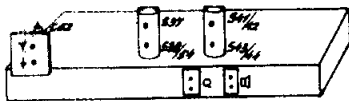

Fig 6
M.F. BANDFILTERS (Fig. 6)
M.F. ZUIGKRING (Fig. 6)